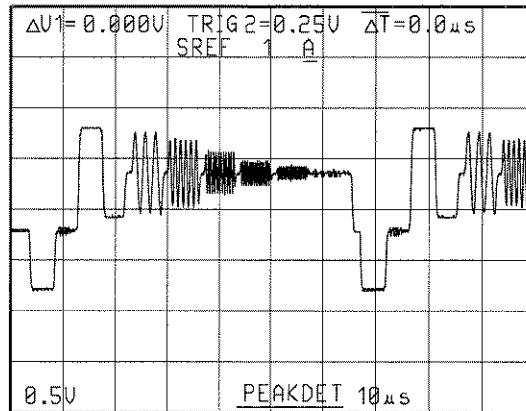

Figure 3-27: Multi-burst Signal Triggered in TV Line
- ☐ **Step 6:** Adjust the **A TRIGGER LEVEL** stabilize the display (Figure 3-27).